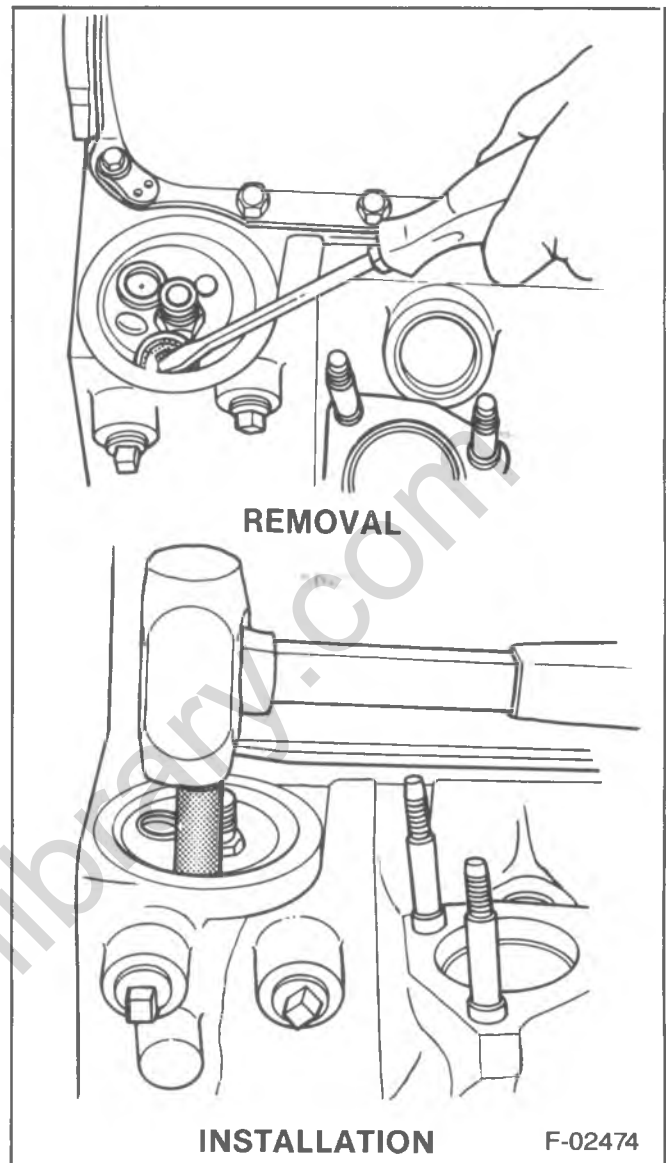

Figure 33—Replacing the Oil Filter Bypass Valve
**Remove or Disconnect (Figure 33)**
**Install or Connect (Figure 33)**